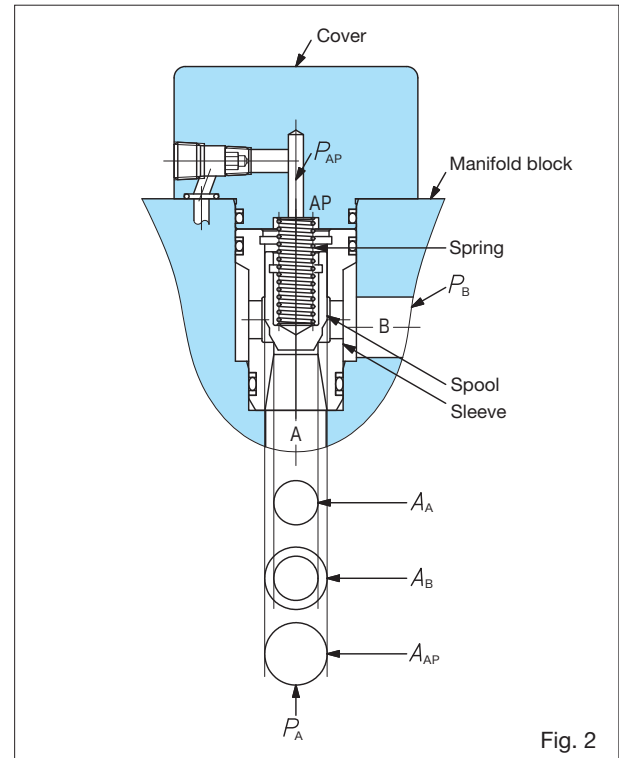

Fig. 2
- As Fig. 2 shows, pressure at port A and B act on the spool to move it in the open direction. Port A pressure, P_A , acts on the valve seat diameter circular area A_A . Port B pressure, P_B , acts on the concentric circular area, A_B , within the valve seat and spool diameters. Pilot pressure, P_{AP} , from the control cover acts on the top of the spool to close it. The area of pressure is the area of the spool diameter ($A_P = A_A + A_B$). Valve opening and closing is determined by the balance of these pressures, spring force F_s , and flow forces, F_i .